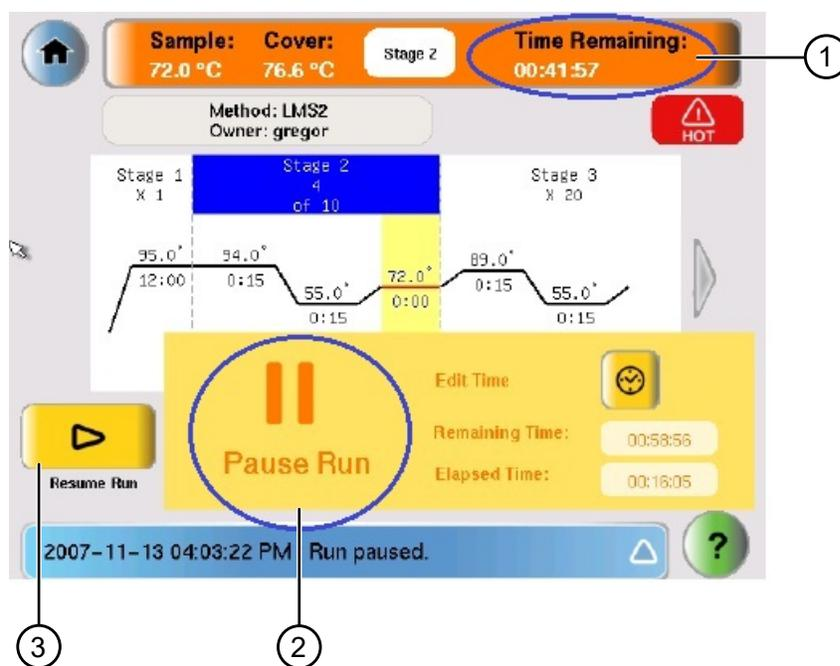

Figure 44 Example of a Veriti™ Thermal Cycler touch screen.
- Only tap the **Pause Run** button once. **Do not** tap it twice. (Figure 44.)